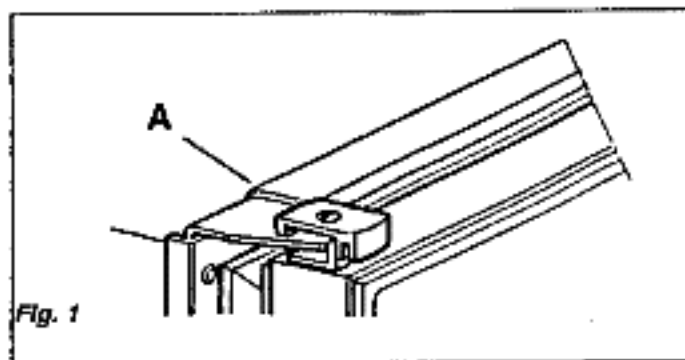

Fig. 1
- Unscrew the travel catch (A in fig. 1) and mount it on the opposite side.